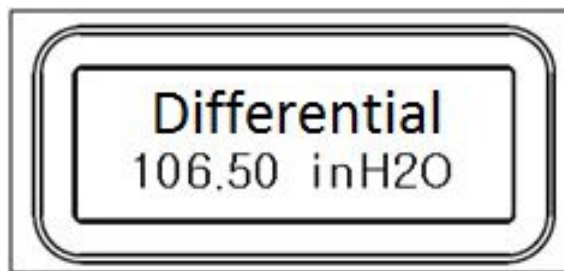

Figure 19 – Basic Display with Process Variable Format
Figure 19 illustrates the Basic Display format with Process Variable (PV).